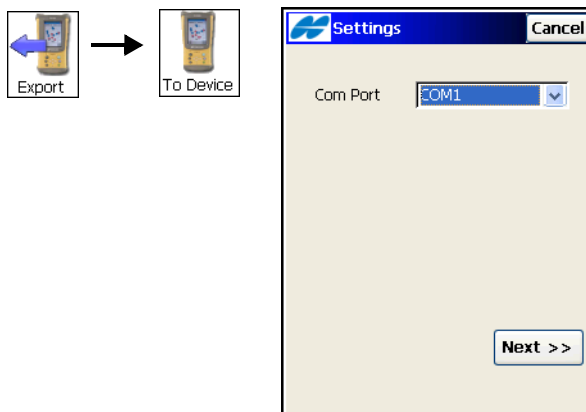

Figure 5-26. Import/Export Settings
2. On the **(Import/Export) Settings** screen (Figure 5-26), select the means of connection using the **Com Port** drop-down list, then tap **Next**. The **Select file** screen displays (Figure 5-26).